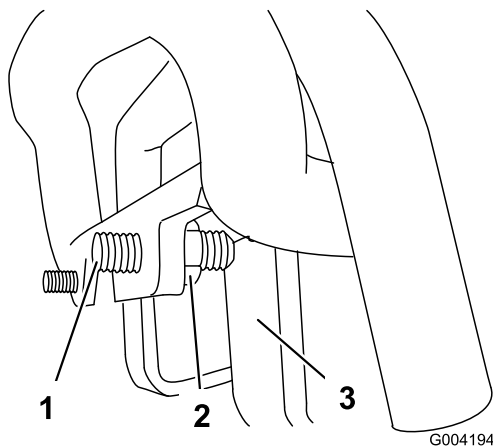

Figure 55
3. If the machine veers to the **left**, loosen the **right** jam nut and adjust the tracking set screw on the front of the traction control (Figure 55).
4. If the machine veers to the **right**, loosen the **left** jam nut and adjust the tracking set screw on the front of the traction control (Figure 55).